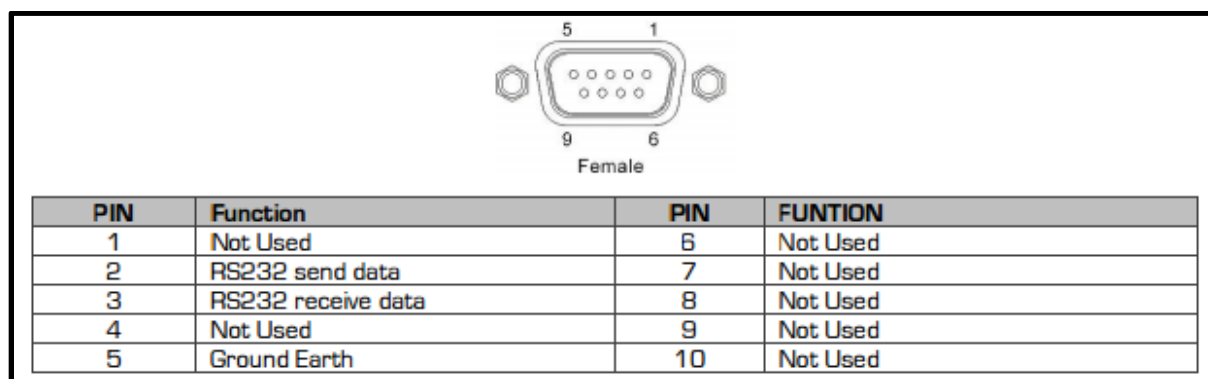

Figure 12: VMX RS232 port pin assignment
- Figures 12 and 13 provide information for the configuration of the RS232 port on the VMX chassis. The port settings detailed in figure 13 can be ignored when connecting using the Pro Matrix software as these will be handled automatically, the info in figure 12 must be followed to ensure the correct serial communications cable is used